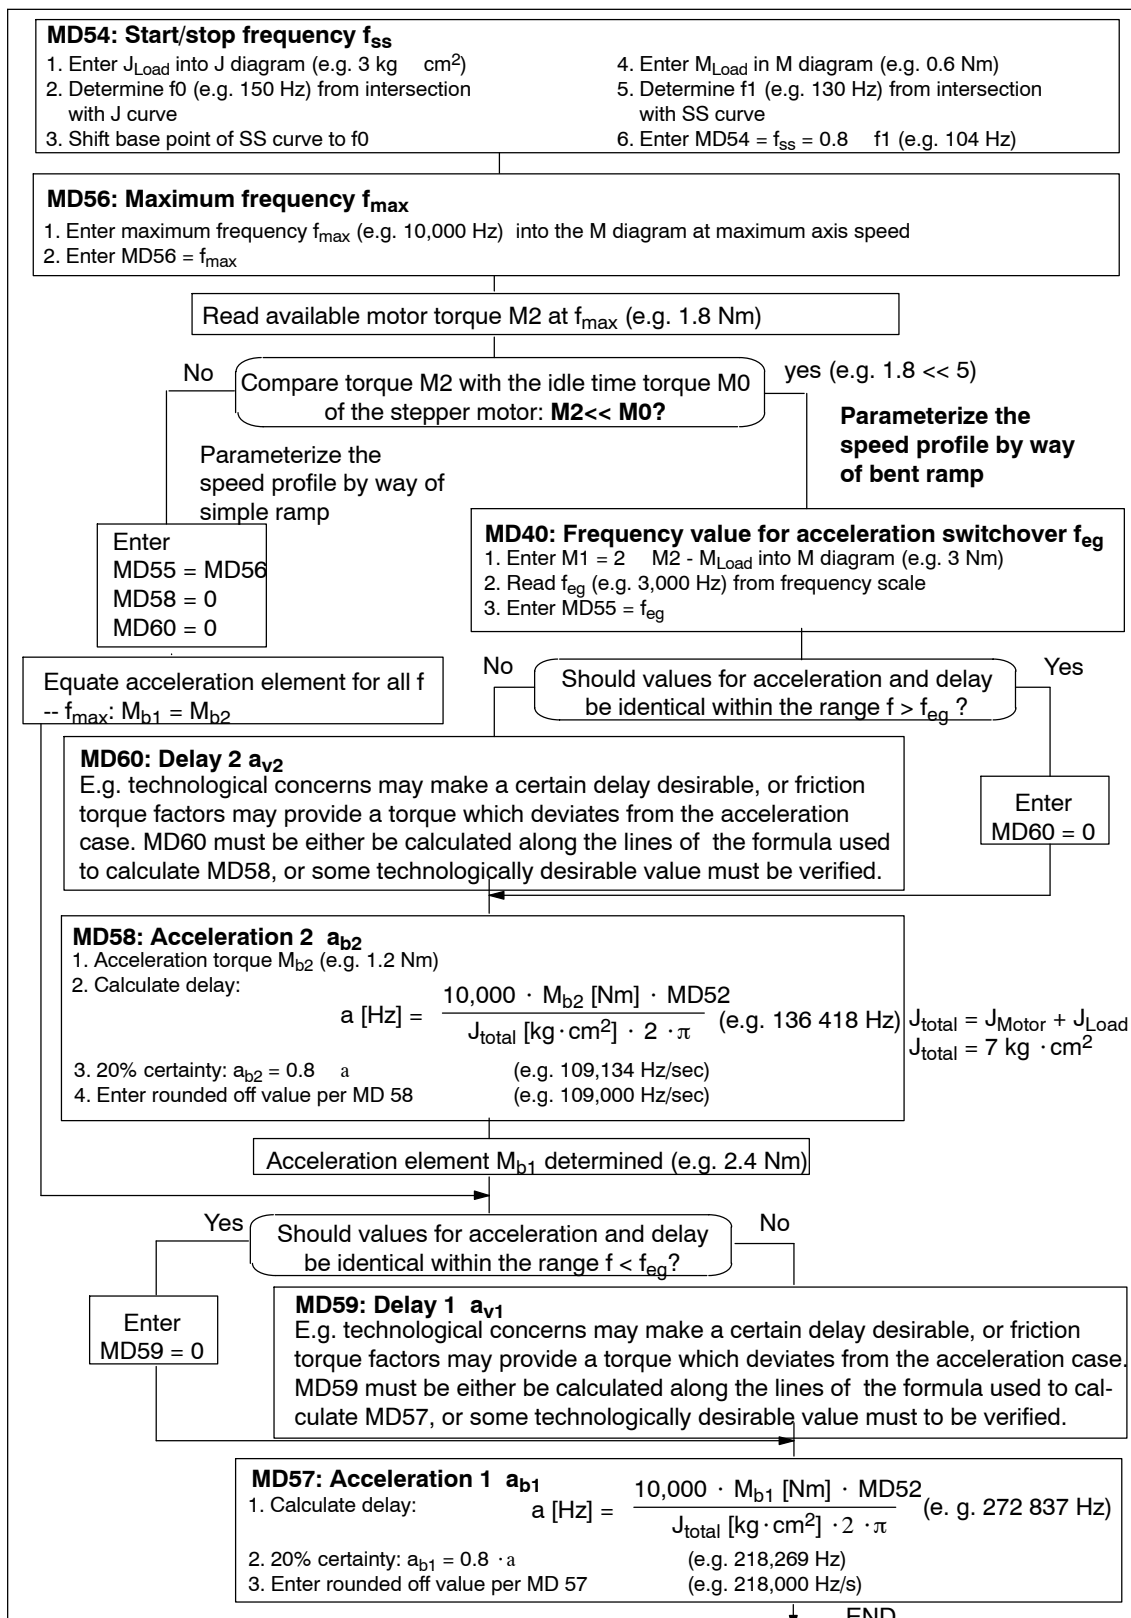

Fig. 7-7 Evaluation of Operating Characteristic Curves
- In the evaluation algorithm (Figure 7-7), select the path "Parameterization of the velocity profile via simple ramp"
When you evaluate this example characteristic in accordance with the algorithm in Figure 7-7, you determine the following machine data: